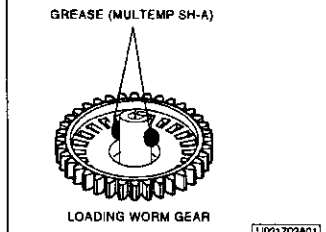

Fig. 2-17-2
- 1 Apply GREASE (MULTEMP SH-A) [859D055080] to the area specified in Fig. 2-17-2 on the new LOADING WORM GEAR.